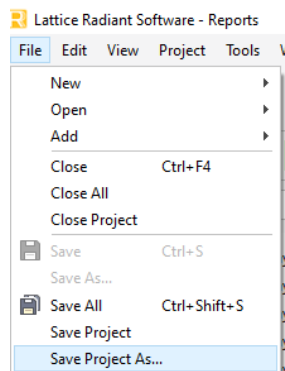

Figure 7.1. Save New Project
- It is recommended to save as a new project for any design customization. Click **Save Project As** to save the project with a new name and open the new project as shown in Figure 7.1.